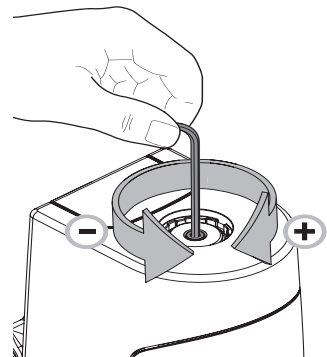

Fig. 7.2
- / **Pressure increase:** turn clockwise in the direction of the arrow (fig. 7.2) = increase pressure (+) with constant visual control of the manometer
- / **Pressure minimisation:** turn counterclockwise in the direction of the arrow (Fig. 7.2) = minimise pressure (-)
Pressure relief: According to chapter 7 „Setting output pressure“, Fig. 7.2, minimise the pressure (-) while observing the pressure gauge. To do this, turn the hexagonal pin spanner anticlockwise **as far as it will go**.